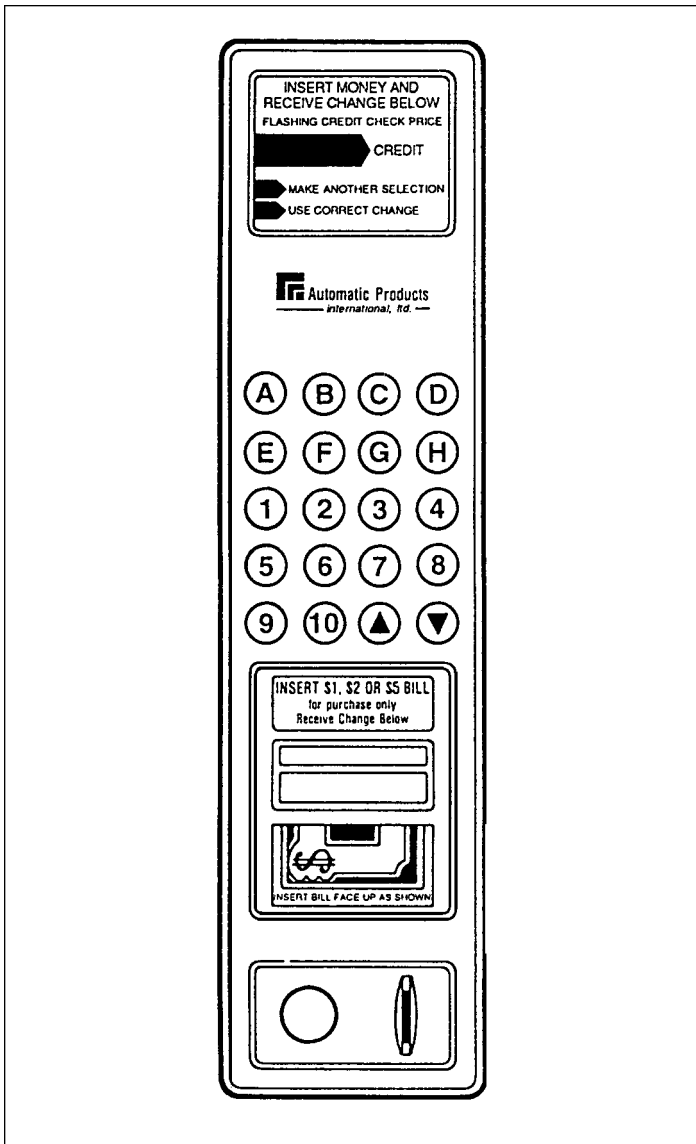

Figure 10.
4. **PRESS #4 - Price Set Mode.** To begin the price setting procedure, press key [4]. The controller will display "Prc" and wait for a selection to be entered. Once the selection is entered, the current price will be displayed. The price can now be increased with the scrolling up (▲) button or decreased with the scrolling down (▼) button. (Figure 10.) The maximum price can be set to \$99.95. Setting a selection price to "0.00" will put it on free vend.
- c. Using the up (▲) or down (▼) buttons will change to the price desired. (Figure 10., Page 9.)
7. **Selection Panel.** The selection panel (Figure 10., Page 9.) on the Snackshop LCM incorporates that use of a self enclosed membrane switch panel. This eliminates the need for individual switches and wiring. The membrane switch panel is housed in a panel with individual buttons protecting the switch face. The panel front also houses the display lens. The display lens gives instructions to the customer for 2 conditions which might occur (make another selection/use correct change). The display lens also contains 3 LED lights.